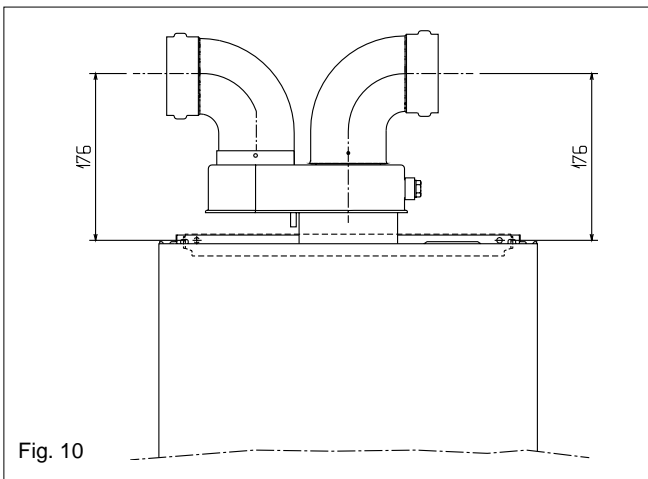

Fig. 10
4.5.3.1 INSTALLATION OF CONCENTRIC TO TWIN ADAPTOR KIT (see fig. 10)